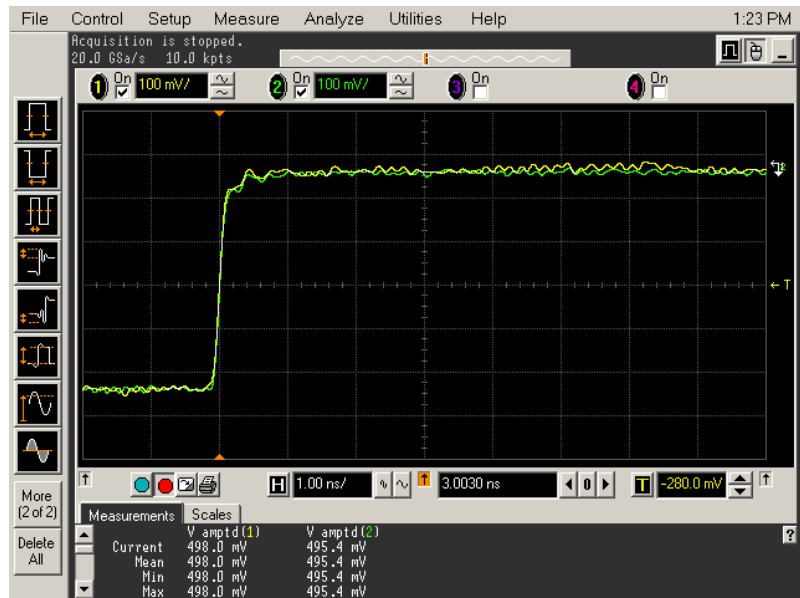

Figure 43 Overlapping Waveforms
- 23 In the Acquisition Setup dialog box enable averaging. When you close the dialog box, you should see waveforms similar to that in Figure 43.